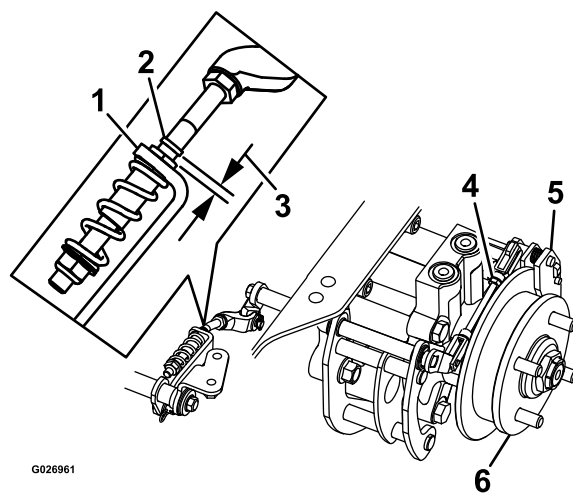

Figure 85
7. Check to see if there is a visible gap between the L-bracket and the linkage stop (Figure 85).